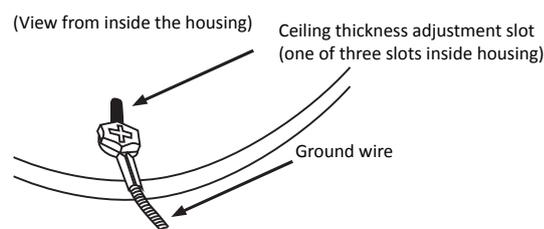

Fig.7
- Use supplied #8 screw in existing hole (Fig. 7).